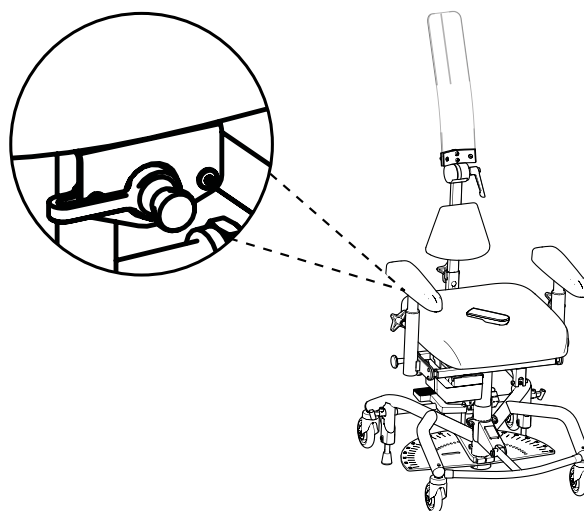

Figure 2.4. Connecting the plug to the charging outlet under the seat.
1. Insert the plug into the charging outlet (see Figure 2.4). The charging outlet is usually placed in the rear edge under the seat.